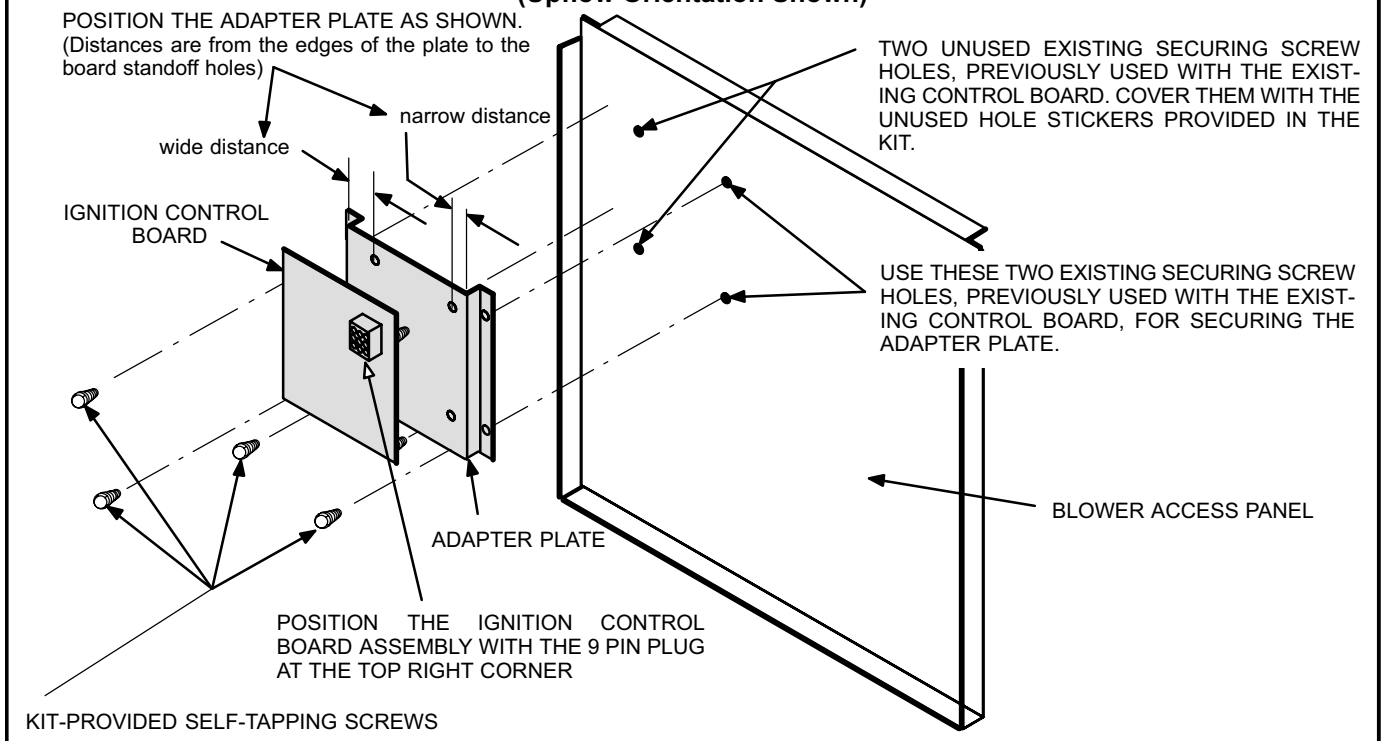

FIGURE 3
- 2 - Secure the adapter plate to the blower access panel exactly as shown in figure 3.
- 3 - Snap-mount the control board to the adapter plate, positioned as shown in figure 3.